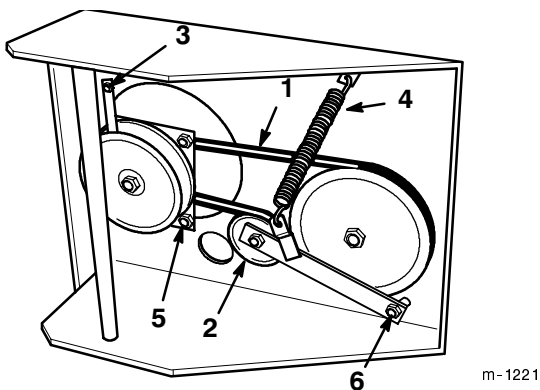

Figure 34
4. Remove left front engine mounting bolt securing clutch retainer to frame (Fig. 34). Unhook retainer from clutch and remove retainer.
5. Unhook tension spring from side of frame (Fig. 34).
8. Torque pivot bolt to 35-40 ft. lb. (47-54 N.m). Install tension spring between idler arm and frame bracket (Fig. 34).